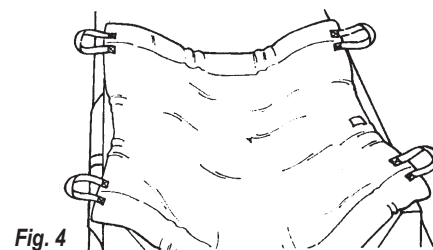

Fig. 4
3. Now that the bolsters are attached to the bed and connected together the separation can be adjusted by varying the Velcro[®] straps (Fig. 4).
The TLC Pad, described on the reverse side, is an absorbent pad that has handles on its four corners that make turning and the positioning residents easy and reduce the likelihood of caregiver back injury. (Fig. 4)